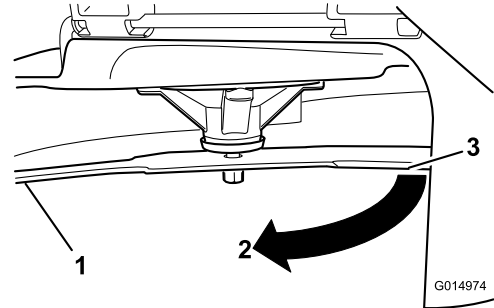

**Figure 57**
2. While wearing thickly padded gloves, or other adequate hand protection, slowly rotate the blade into a position that allows you to measure the distance between the cutting edge and the level surface the machine is on (Figure 57).